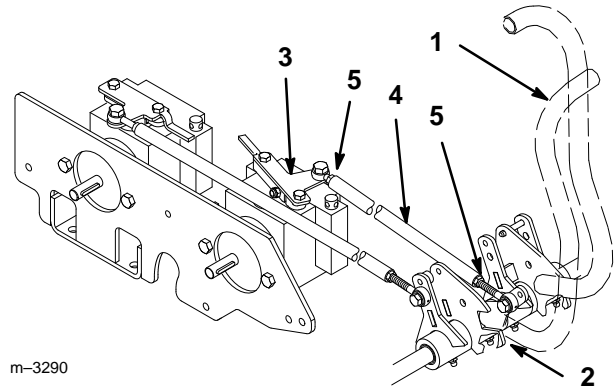

Figure 30
- Loosen jam nuts on pump control rod (Fig. 30).
- Push and firmly hold motion control lever against forward stop (Fig. 30).
- Rotate pump control rod until pump control plate is in the full forward position (Fig. 30). Motion control lever will lift off forward stop.
- Rotate control rod 1 turn, to lengthen rod, and tighten jam nuts (Fig. 30).